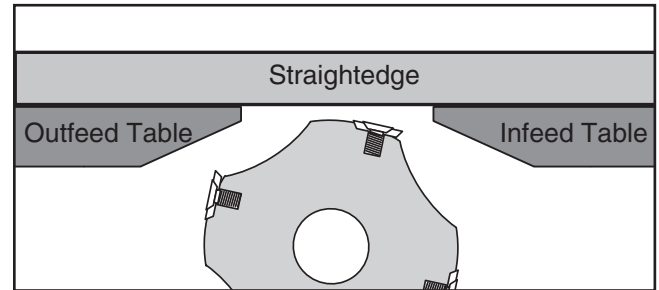

Figure 50. Example of infeed and outfeed table height set evenly.
- Place straightedge halfway across infeed and outfeed tables, and adjust infeed table height even with outfeed table (see **Figure 50**).